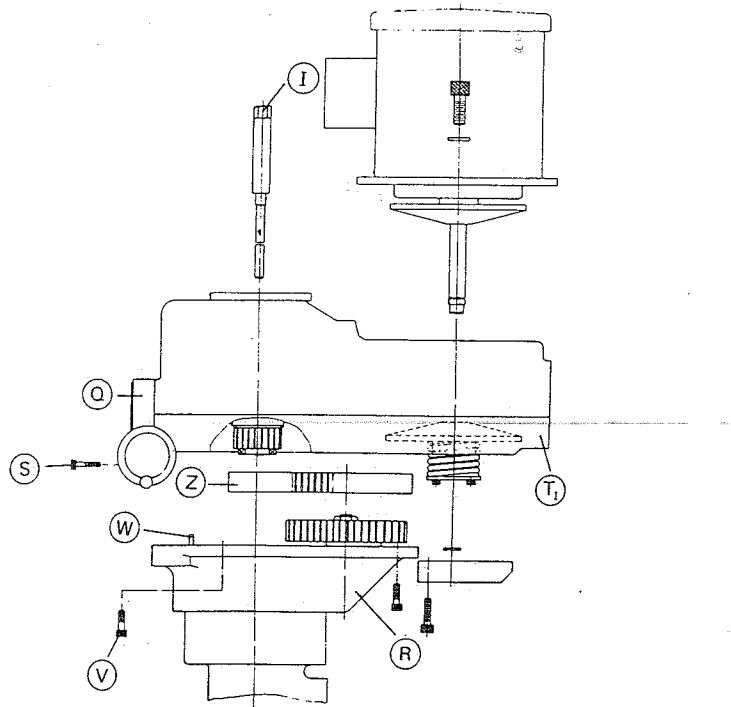

Figure 20
- c. As shown in Figure 20, take off the connected gear housing (R) and the four hexagonal concave bolts (V) bottom belt housing (T1).
- d. Use a soft mallet and hit the bottom belt housing lightly to disengage it with the fix pin (W) to dismantle the bottom belt housing (T1) as shown in Figure 20.
- e. Take off the hexagonal concave bolt (X) of the two setting bearing housing and remove the front vari-disc assembly set (E1). Brake block (Y) can be replaced then.